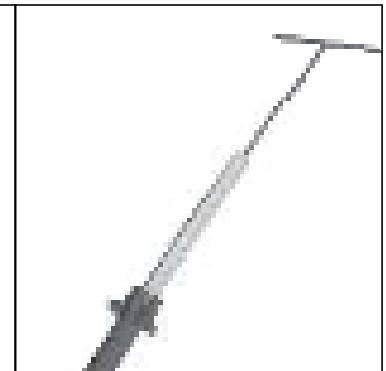

Fig. 1.13B
- Used to hold the front fork cylinder during fork leg assembly dismantling. (Fig. 1.13B)